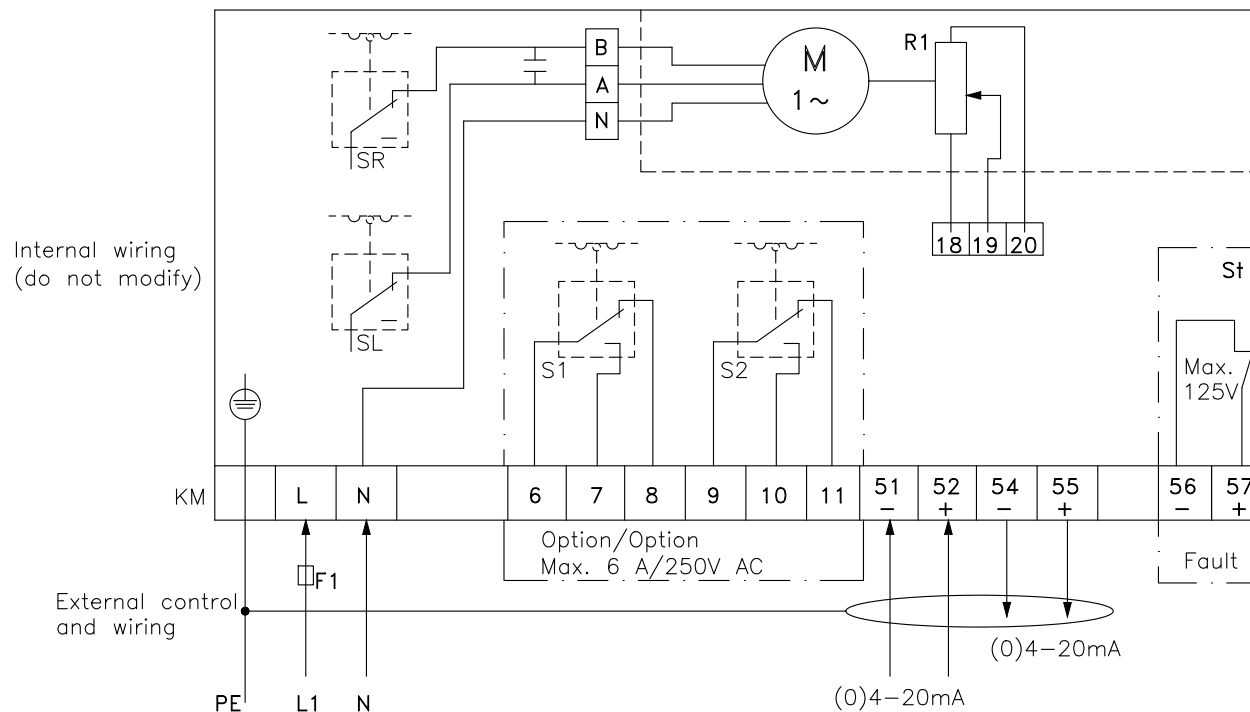

Fig. 2
Please make necessary connections, as per the wiring diagram provided in Fig. 2 on page no. 5
- * Potential free, change over output of auxiliary limit switch S1, can be obtained from terminals "6","7" and "8", refer Fig. 2
- ** Potential free, change over output of auxiliary limit switch S2, can be obtained from terminals "9","10" and "11", refer Fig. 2